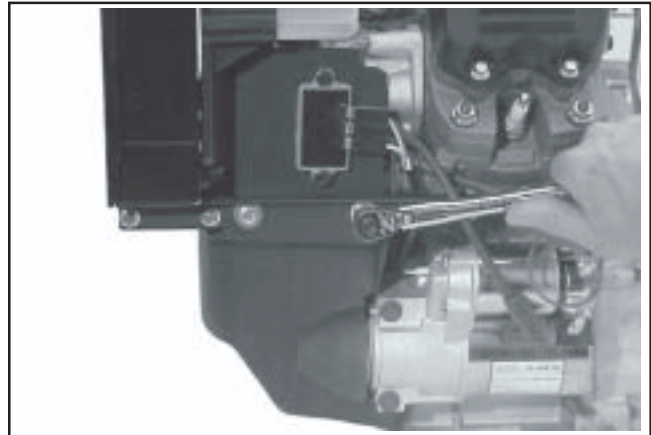

Figure 11-120. Torquing Lower Screws and Rectifier-Regulator Mounting.
3. Align the lower flywheel cover with the #1 (starter) side lower radiator support bracket holes. Position the rectifier-regulator mounting plate, behind the cover and install the remaining two screws or nuts and flat washers. Torque the four fasteners to **9.9 N·m (88 in. lb.)**. See Figure 11-120.
4. If removed, mount the rectifier-regulator to the plate with the two screws and attach the connector plug. See Figure 11-120.